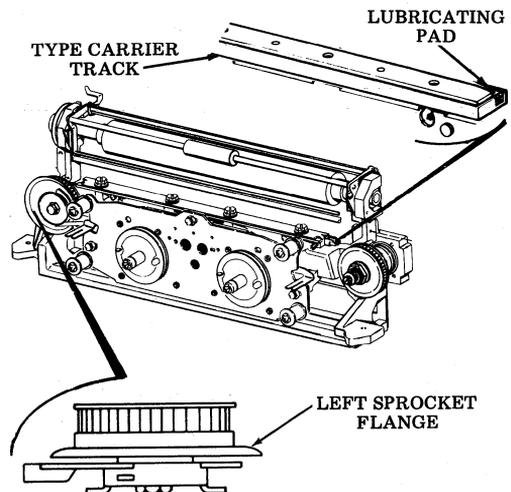

Fig. 31
5.04 Check for wear, detents, or pitting on left sprocket flange (Fig. 31). Replace if necessary. If left sprocket is replaced, perform LEFT CARRIER SPROCKET adjustment.
5.05 Check for wear and pitting on type carrier track. Make sure type carrier lubricating pad is in place and is not damaged. (See Fig. 31.) Replace if necessary. If front plate is replaced, perform BACKUP BAR adjustment.